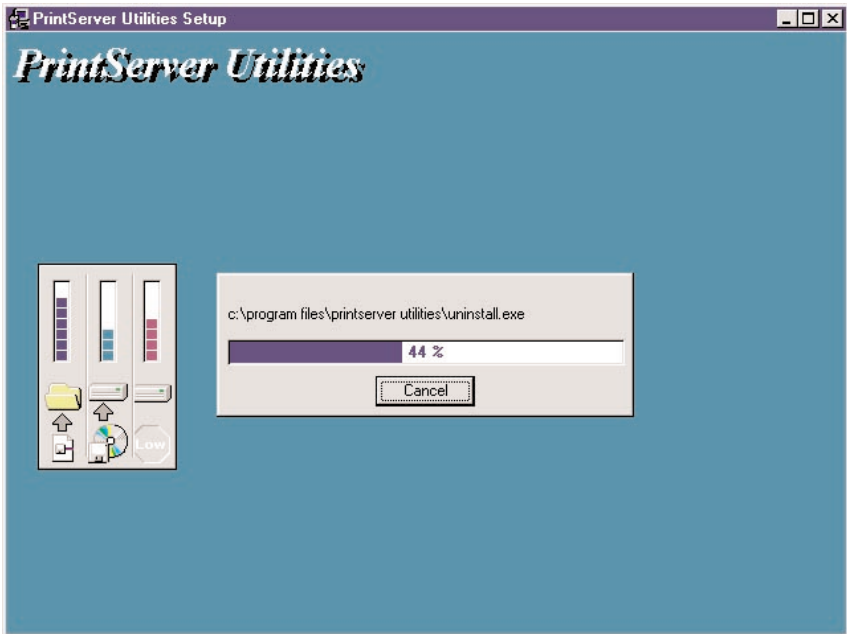

Figure 4-7. Installing the program files.
7. Specify the program folder where the program icons will be added. To go back to the previous screen, click on the **Back** button. To cancel your changes, click on the **Cancel** button. Click on the **Next** button to start installation. Once installation begins, Figure 4-7 will appear.